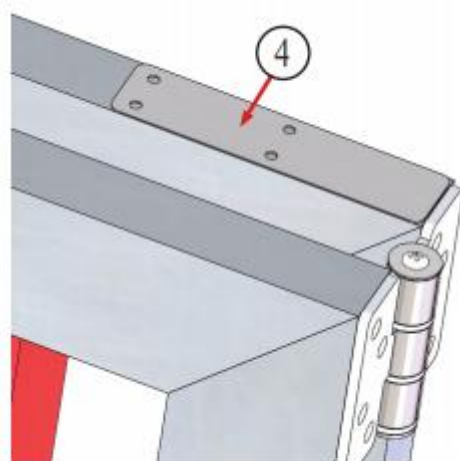

Fig 1
1. Install the folding door rotating mechanism ① and adjusting washer ④ on the 1st door. See Fig 1